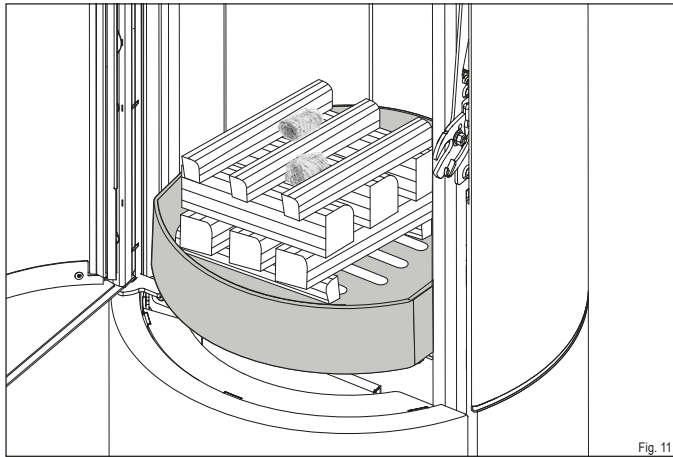

Fig. 11
- ▶ Place the logs in the middle of the grate in the firebox (Fig. 11):
- ▶ place the first 2 (2) at the front and back end of the grate opening, perpendicular to the firebox glass
- ▶ place the next 3 (1) on top of the first two pieces, parallel to the firebox glass
- ▶ the next 3 (1) across
- ▶ place the last 3 (2) lengthwise on top of this
- ▶ the kindling (3) in the middle between the top logs